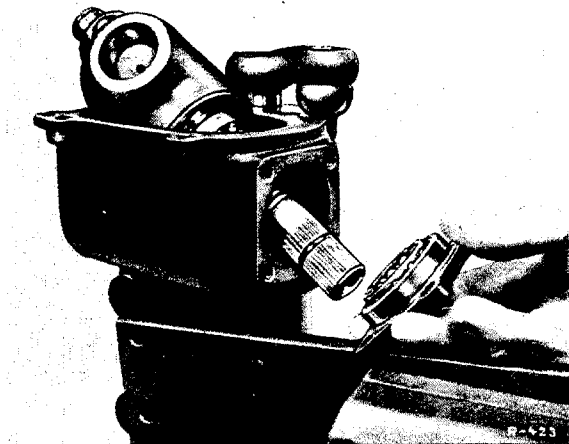

Fig. L 4/22
9. Remove the steering worm with the steering nut obliquely upward from the housing (Fig. L 4/22).